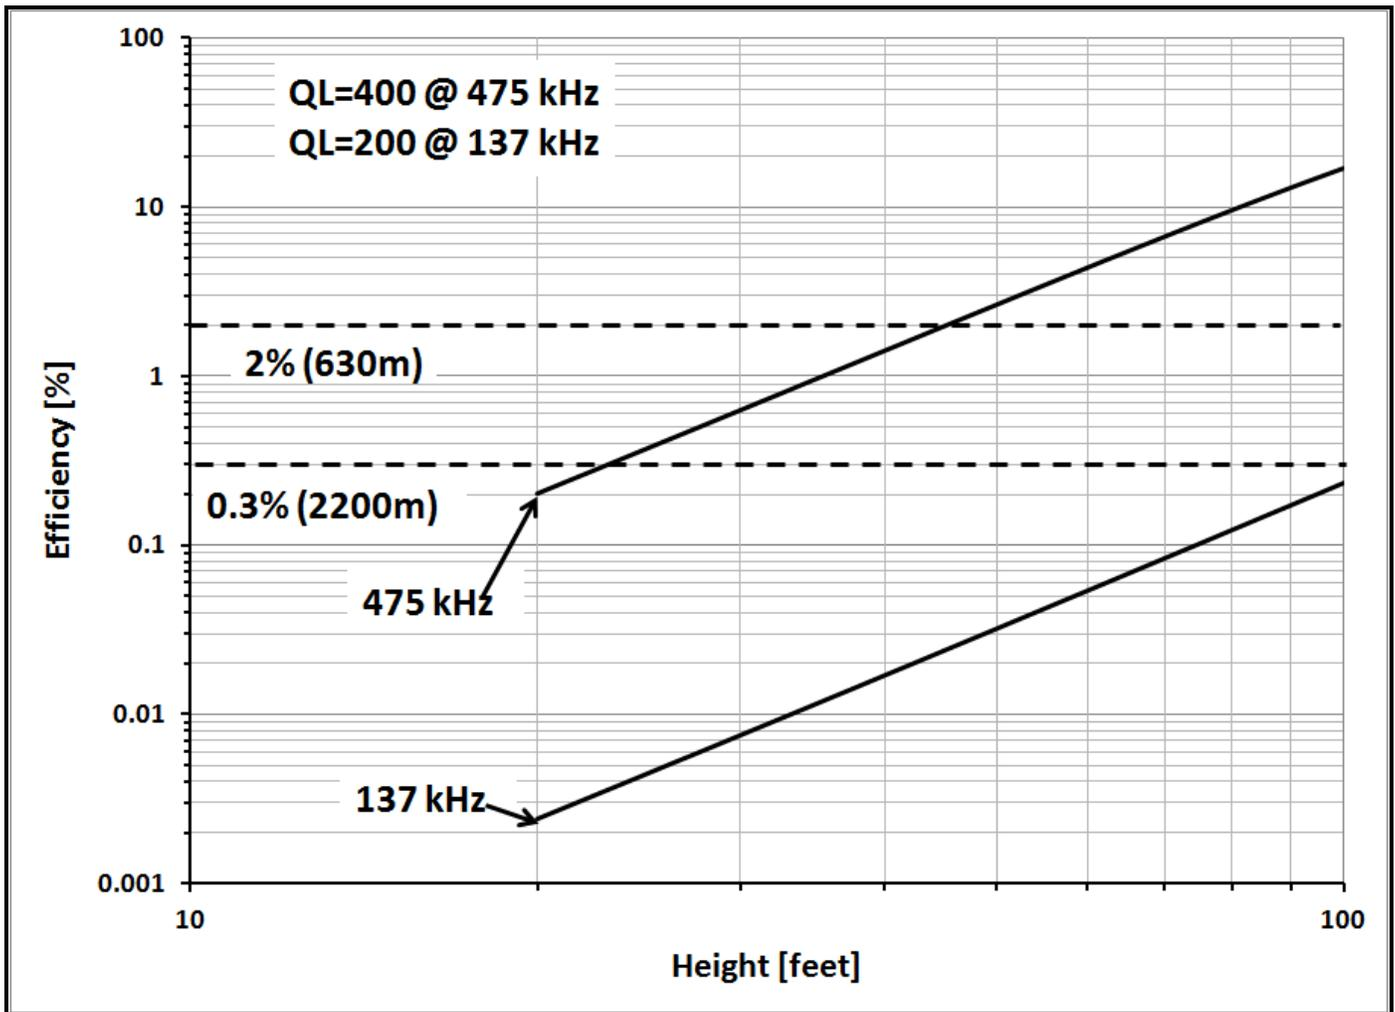

Figure 2.12 -Efficiency using a QL=200 and 400 loading inductors.
We can get a good feeling for the effect of loading inductor losses (RL) on efficiency by assuming  $R_i = RL + R_r$  (i.e. ignoring other losses) and calculate the efficiency as shown in figures 2.12 and 2.13. QL=200 at 137 kHz and 400 at 475 kHz are assumed. Figure 2.12 is truly bad news. For example with  $H=20'$ , at 137 kHz  $\eta=0.0024\%$  and at 475 kHz  $\eta=0.20\%$  and that doesn't consider any other losses! Increasing H to 100' makes a great difference. At 137 kHz  $\eta=0.24\%$ , still very low but a factor of 100 improvement. With 100W output from the transmitter, to radiate the allowed maximum powers the antenna will have to have  $\eta > 2\%$  at 475 kHz and  $\eta > 0.33\%$  at 137 kHz. There are horizontal dashed lines corresponding to these values in figure 2.12. We can see from the graph (for a simple vertical) a minimum height of 45' on 630m and >100' on 2200m is needed. Note, the efficiency scale is logarithmic, a small change in height means a large change in efficiency! As if we're not already depressed enough the y-axis in figure 2.12 can be converted to dB to better illustrate the effect of losses on our signals as shown in figure 2.13. The signal reduction for this range of heights is particularly severe on 2200m.